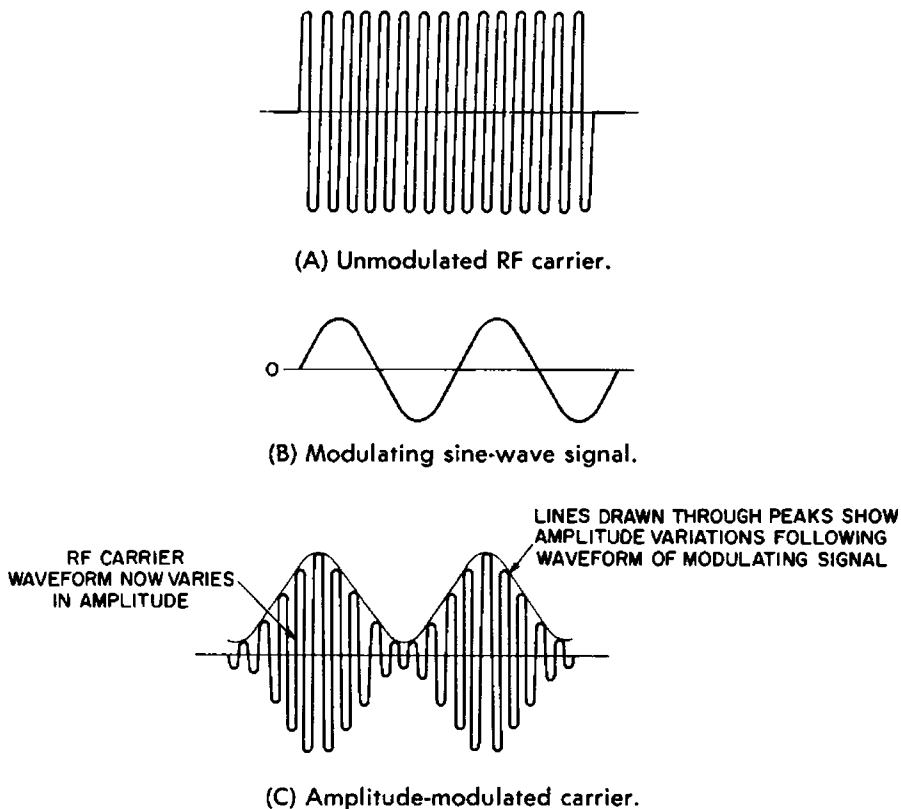

Fig. 2-1. Amplitude-modulation process.
The process of varying the transmitter carrier wave is known as modulation. The information necessary to produce a picture or sound may be impressed on the RF carrier wave in any one of several ways, the most common being amplitude modulation (AM). This is the method used in transmitting the TV picture (video) information. The amplitude of the RF carrier is varied in step with the variations in the information being transmitted. Fig. 2-1 illustrates this process. The RF carrier wave (A) is modulated with the sine-wave signal (B), and the resulting amplitude-modulated signal appears as shown in (C). During the amplitude-modulation process, two changes occur. First, the height (amplitude) of each cycle of the RF carrier wave is changed; and secondly, new RF frequencies are generated on each side of the original RF carrier. If we draw an imaginary line along the peaks of the modulated RF carrier wave, we will have two modulation envelopes as in Fig. 2-1C, one above the zero axis and the other below. The new RF fre-